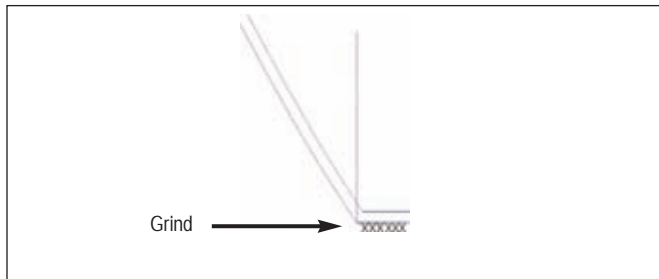

FIGURE 6-4
6.1.8. Grind the bottom half (180°) of the baffle, the flange. (See FIGURE 6-4.)